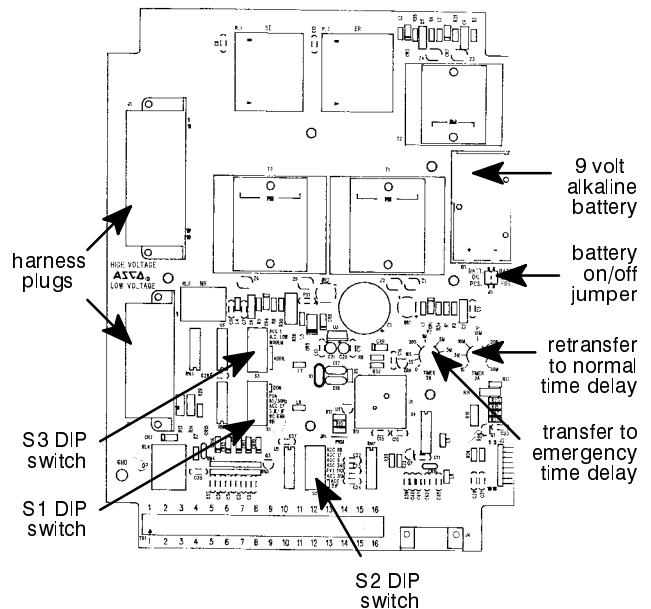
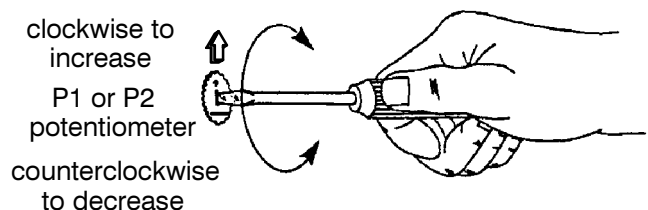
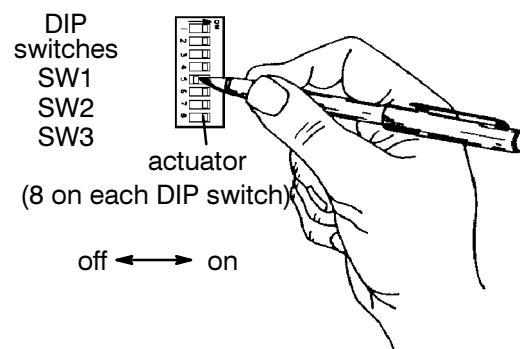

Figure 4-2. Location of potentiometers.
Figure 4-3. Changing time delay potentiometers.
Figure 4-4. Setting DIP switch actuators.
4. Locate the appropriate adjustment potentiometer or DIP switch for the setting that you want to change. Refer to Table 4-1 and Table 4-2 on page 4-1 and Figure 4-2, Figure 4-3, Figure 4-4 on page 4-2.
5. Use a small screwdriver to turn the potentiometer clockwise to increase the time delay or counterclockwise to decrease it. See Figure 4-3.
6. Use a ball-point pen (or similar pointed tool) to slide the switch actuators left or right so they match the illustration next to the setting (left = off, right = on). Recheck the setting. See Figure 4-4.